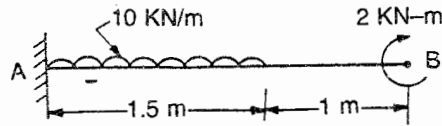

Fig. 5.67
- 18 Draw the *S.F.* and *B.M.* diagrams for the cantilever shown in figure 5.67